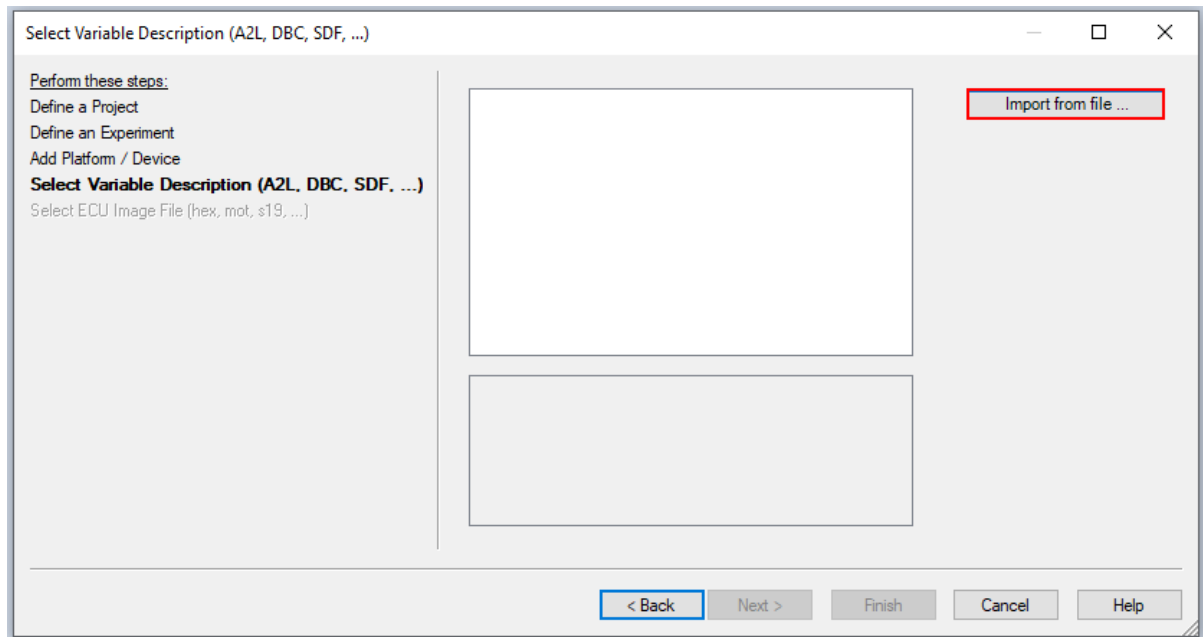
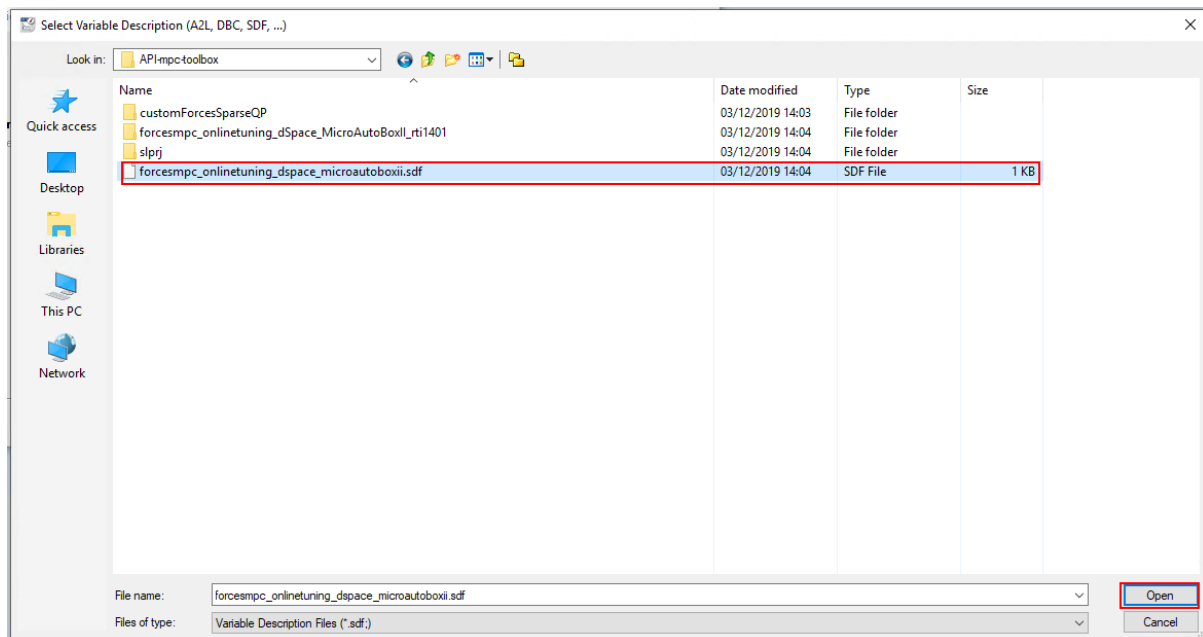

Figure 6.12: Import the variable description file
Figure 6.13: Select the sdf file with the variables description
- 9) Import the variable description file `forcesmpc_onlinetuning_dSpace_MicroAutoBoxII.sdf` in order to have access to the model variables and see the results of the execution (see Figure 6.12 and Figure 6.13).